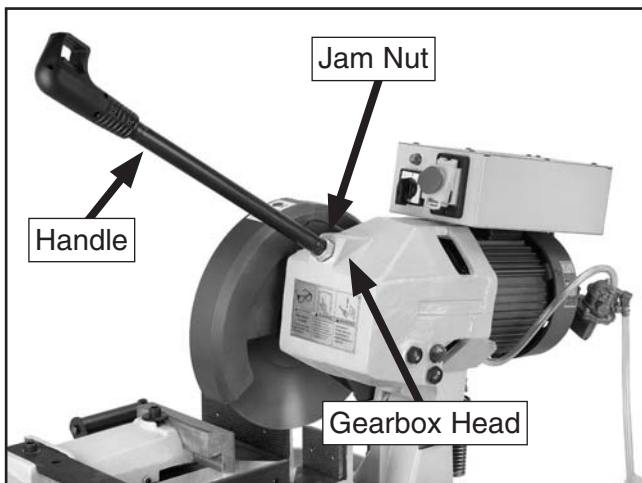

Figure 13. Installing handle.
5. Attach the handle by threading it into the gearbox head, then tightening the jam nut, as shown in **Figure 13**.